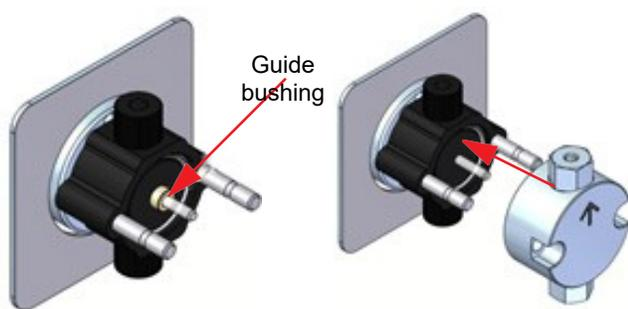

Figure 13: Reinstalling the pump head
- Place the seal back-up washer on the piston. Replace the pump head. Make sure that the inlet check valves are on the bottom and the outlet check valves are on top (Figure 13).